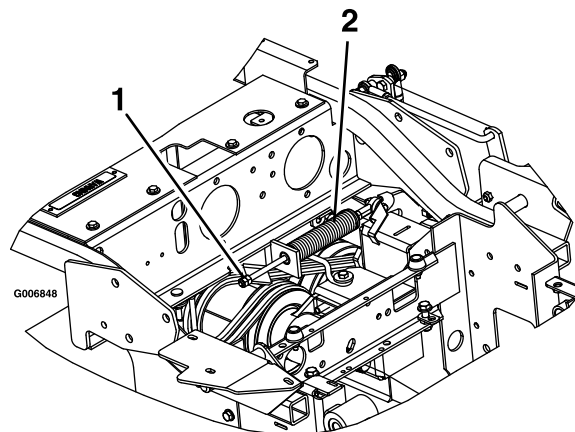

Figure 24
2. Locate the brake spring and thread the two jam nuts out to the end of the brake spring rod (see Figure 24).